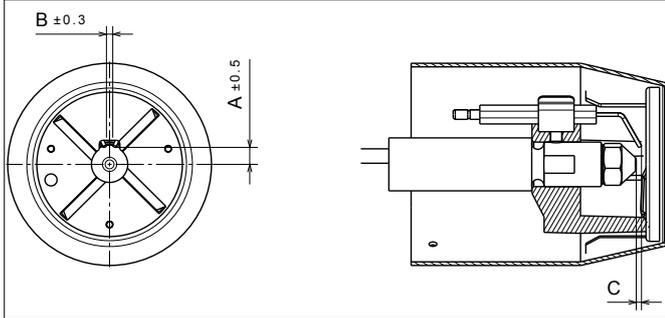

Figure 10-5: Ignition electrode settings
6. Check/adjust electrode setting. Refer to Figure 10-5.